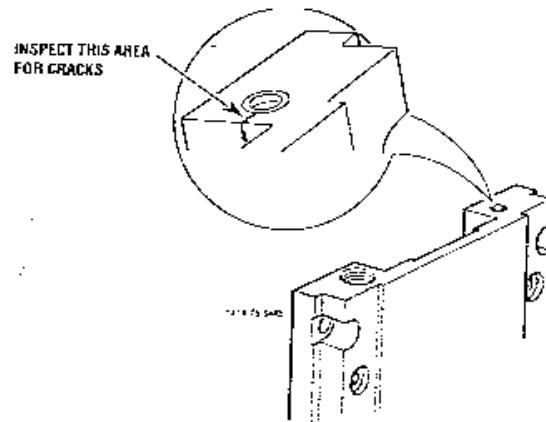

Fig. 3.19 Gas Transfer Manifold
8. Visually inspect the gas transfer manifold (109) for any signs of cracking adjacent to the hole plug, as shown in Fig. 3.19. If no cracks are found, the gas transfer manifold may be reassembled onto the vaporizer.